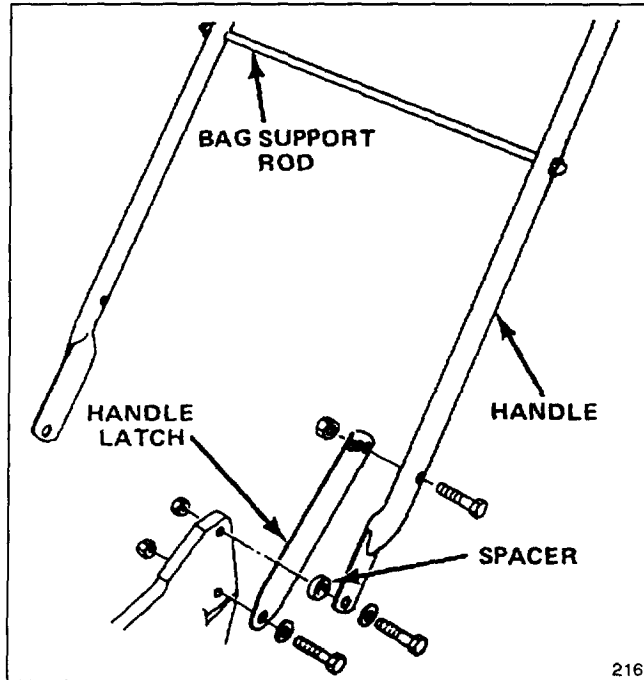

Figure 1
1. Mount handle to outside of mower housing, using top hole, with (2) 5/16-18 x 1-1/2" lg. capscrews, washers, spacers, and nylon insert locknuts as shown in Figure 1.
2. Mount handle latches to outside of mower housing, using bottom hole, with (2) 5/16-18 x 1-1/4" lg. capscrews, washers, and locknuts as shown in Figure 1.
3. Secure handle latches to handle with (2) 5/16-18 x 1-1/2" lg. capscrews and nylon insert locknuts (Fig. 1). Position locknuts on inside of handle.
4. Slide bag support rod through **top** mounting holes in handle and secure each end with (2) cap locknuts (Fig. 1).